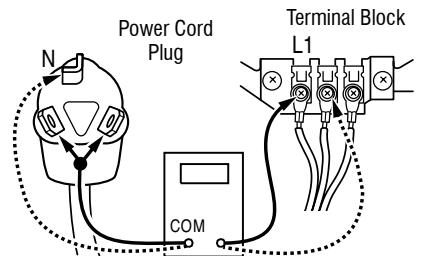

Figure 4 - Plug-to-terminal connections for electric dryer
3. With an ohmmeter, check for continuity between the neutral (N) terminal of the plug and the center contact on the terminal block. See figure 4.
6. In a similar way, check which terminal of the plug is connected to the left-most contact on the terminal block and make a note of it. This will be L1 (black wire) in the wiring diagram. See figure 4.